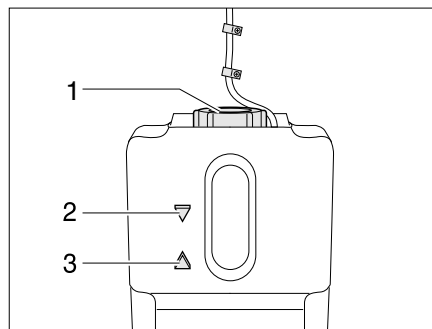

Fig. 374 Compensator reservoir hot-water heater
- Check if the fluid level is between the marks "MIN" (Fig. 374,3) and "MAX" (Fig. 374,2) on the compensator reservoir (Fig. 374).
- Open the rotary lid (Fig. 374,1) on the compensator reservoir.